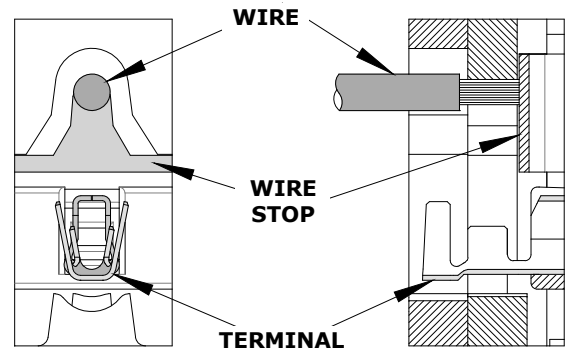

Figure 7
10. On some large O.D. wires, it may not be possible to insert the wire with the tool partially closed. Those wires should be inserted with the hand tool in the open position. Insert the wire above the terminal in the punch and against the wire stop then close the tool. See Figure 7.